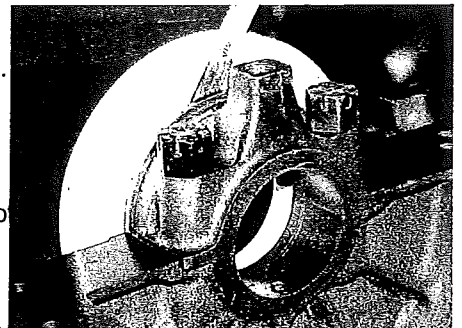

FIGURE 2
7) Offer up the lower half of the Seal Retainer Assembly. Determine that it is not touching the rear surface of the rear main bearing cap: there must be a slight gap (.006-.012"). (REFER TO FIGURE 2) The rear face of the rear main cap was never a factory-machined surface and can be quite uneven: some, especially early, main caps are quite thick in this area. It may be necessary to remove some material from this surface to insure a proper gap. This may be done with a file, grinder, disk or belt sander, etc. Don't worry if this surface is a bit rough or uneven: the sealer which you will use in Step 10 will take care of this.
8) With the rear main bearing cap secured, attach the two Seal Retainer halves together, using the two socket screws and hex wrench supplied. There **must** be a slight (.006-.012") gap between the retainer and main bearing cap. (REFER TO FIGURE 2) If no go back to Step 7. The Loctite Sealer will fill to a 1/16" gap. (It is important to use a thread lubricant on the two socket screw threads)